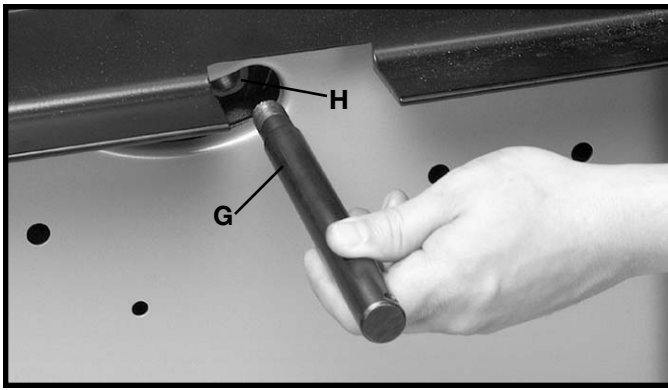
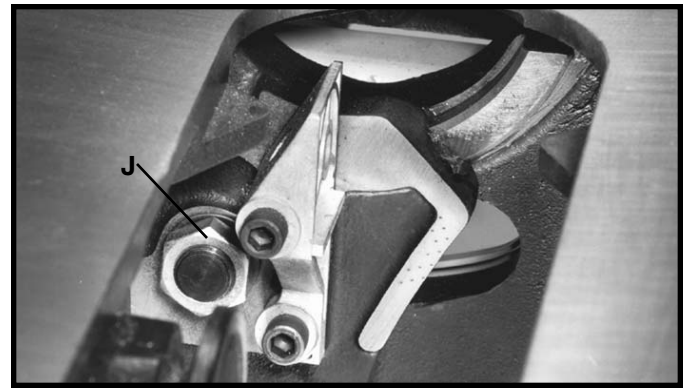
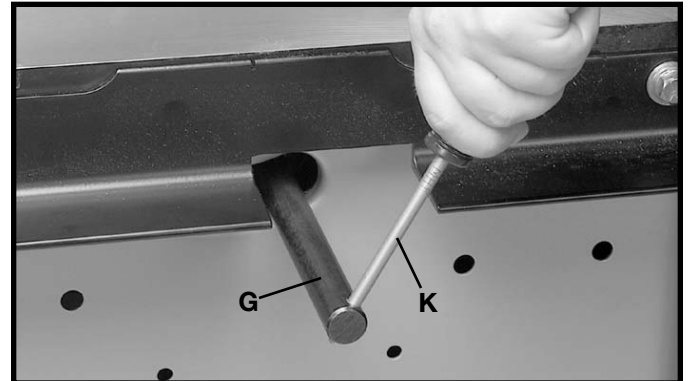

Fig. 16
Fig. 17
Fig. 18
6. Insert threaded end of support rod (G) Fig. 16, through slot in back of saw and through hole (H) Fig. 16, in rear trunnion. Fasten support rod (G) Fig. 16, to trunnion using star washer and 5/8-18 nut (J) Fig. 17. **NOTE:** Thread nut (J) onto threaded end of support rod as far as possible by hand. Using a wrench to hold nut (J) Fig. 17, tighten rod (G) Fig. 18, using a small screwdriver (K) or similar device through hole in end of rod (G) as shown.